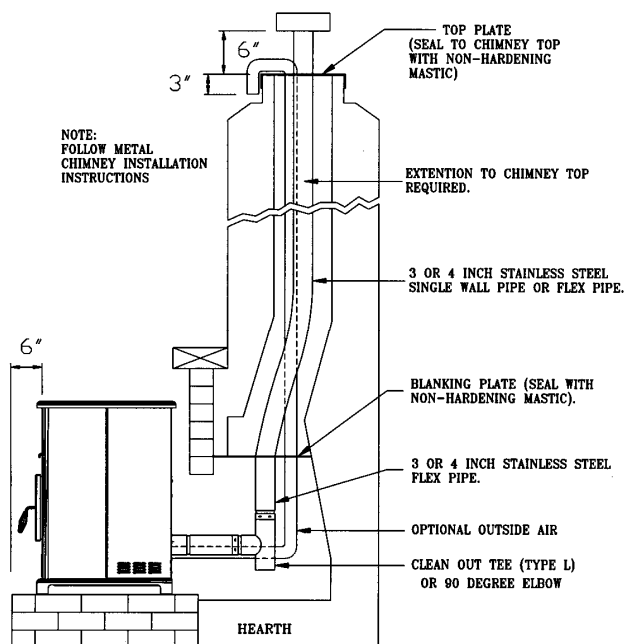

FIGURE 9
3. Install a blanking plate and the chimney pipe, and if used the outside air pipe, as shown in Figure 9.